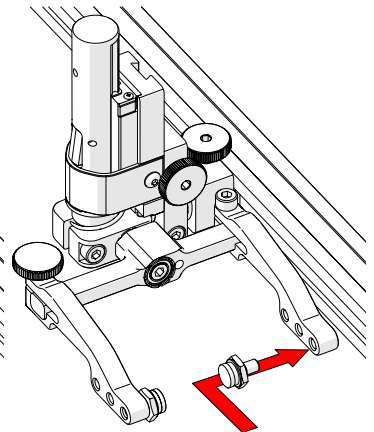

Fig. 107 - Place buttons
3. Position the pivot buttons where necessary. When a narrow scanning footprint is required, use the pivot button holes closest to the yoke (Fig. 107).